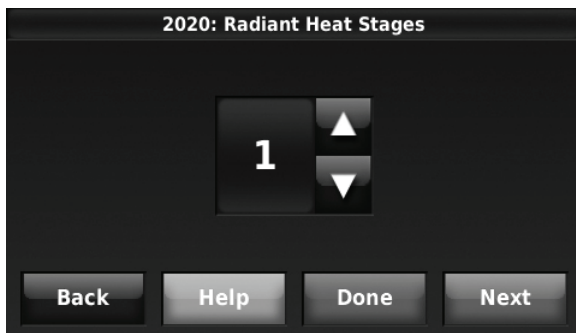

Fig. 203.
2. Select the number of Radiant Heat Stages. See Fig. 203.